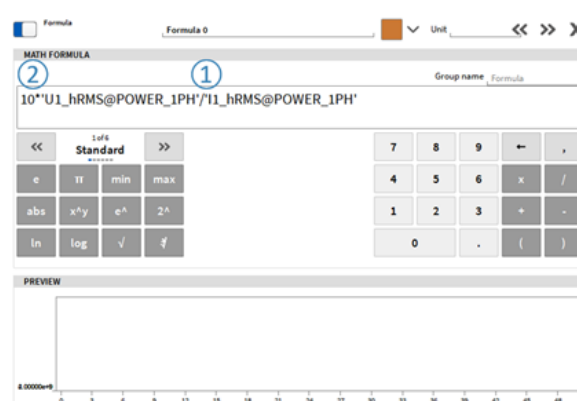

Fig. 7.69: Basic math operations for arrays
- Basic math operations for arrays with same dimensions supported (see ① in Fig. 7.69): + - \* /
- Operations (+ - \* /) with arrays and constants (see ② in Fig. 7.69)